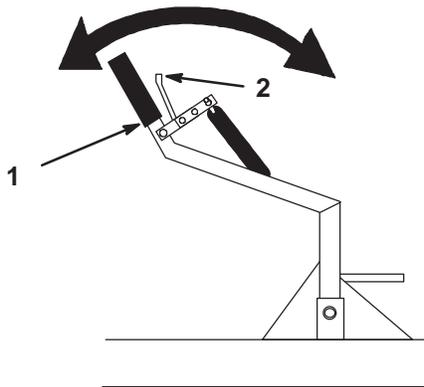

Figure 18
The blade can be indexed side to side, in 5 positions. The direction is controlled by the handle on the right frame (Fig. 18).
1. Squeeze the release lever toward the handle (Fig. 18).